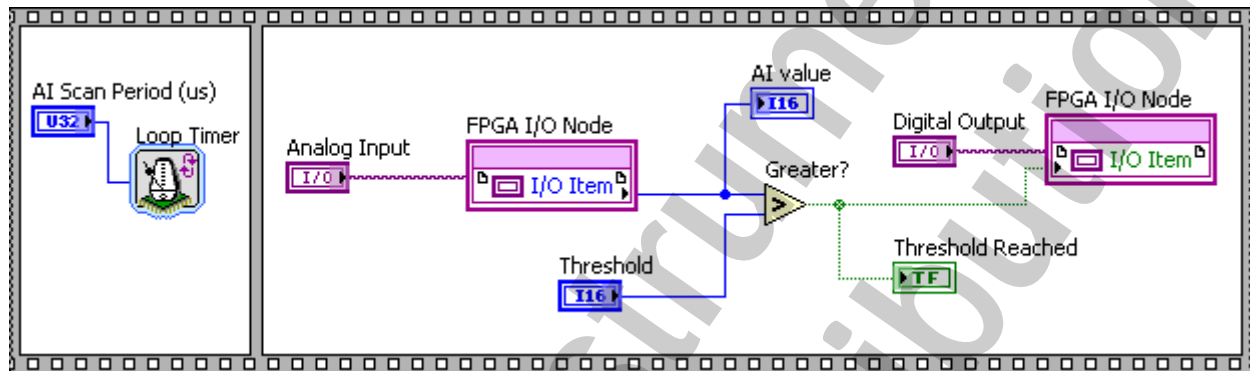

Figure 10-1. Max AI (SubVI) VI Block Diagram
- 5. Create the block diagram, as shown in Figure 10-1, to monitor a user-selectable analog input channel and control a user-selectable digital output line after waiting a set amount of time using the following items: